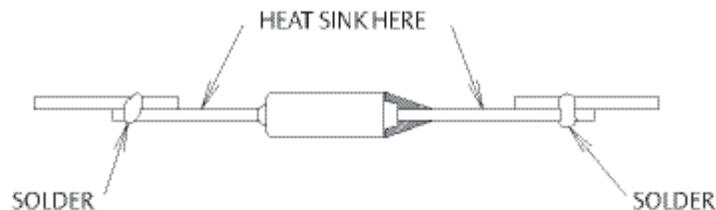

Figure 7
- P ZZZZZ (P) Manufacturing plant; (ZZZZZ) Date code
- G Z X XX Part number (see figure 7)
-  T_F TTTC (UL) Underwriters Labs logo; (T_F TTTC) Maximum open temperature °C
- G Z X XX RR Part number (see figure 7)
- T_F TTTC P ZZ  (T_F TTTC) Maximum open temperature °C; (P) Manufacturing plant location; (ZZ) Manufacture date code; (UL) Underwriters Labs logo
Thermal cutoff leads should be heat sunk during the soldering operation (see figure 7). If excessive heat is conducted by the leads into the thermal cutoff, it can shorten the life of the TCO. In addition, excessive lead temperatures can damage the epoxy and possibly result in the TCO failing to open. More heat sinking is necessary for thermal cutoffs with low temperature ratings.